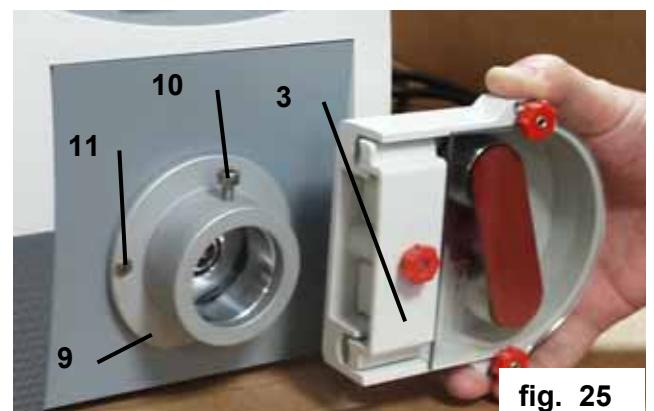

fig. 25
2.3. SP Standard, SP vario, (fig 25)
- Installation of SP Standard and SP vario pump heads needs flange (9) from your hardware kit.
- Uninstall flange (9) from pump head (3) by loosening setscrew (10).
- Secure flange on front panel with countersunk screws (11). Use Phillips screwdriver.
- Make sure that coupling fits counterpiece (as required, rotate rotor a little bit; remove cover to get access (also refer to Chapter 3.5)). Check horizontal location of pump head (3); hose outlet pointing to the left; secure in place with setscrew (10).